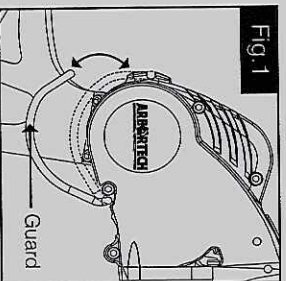

Fig 1
Before changing blades, the guard around the blade mounts must be levered gently out of its groove at the front of the tool and swung away to give access to the cap screws. (See Fig. 1)
**CAUTION:** If the blades rub against each other anywhere other than within 25mm/1" of the cutting edge, or contact force is high, it is possible to overload the tool and cause premature belt wear. Swing the guard to its groove at the front of the tool and snap it into place. (See fig. 1)